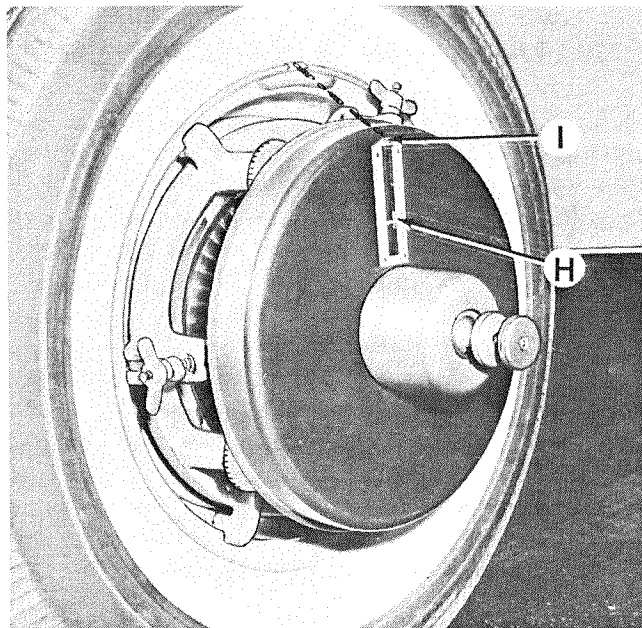

Fig. 6
9. Note amount of weight indicated on scale, H Fig. 6. Apply balance weight of equal amount on the wheel rim at a point directly in line with pointer, I Fig. 6.